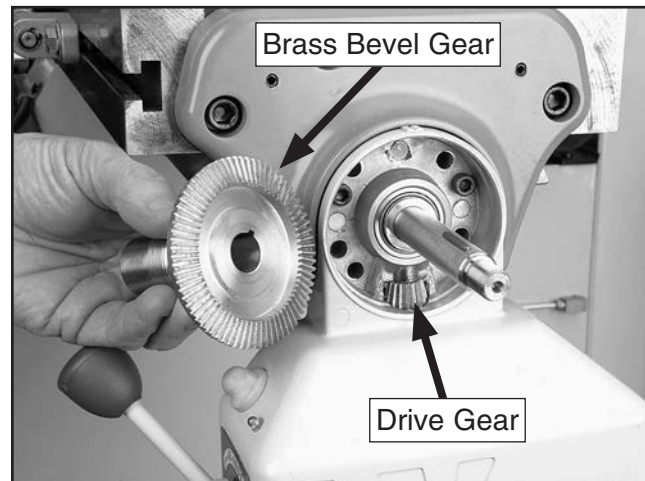

Figure 61. Power feed brass bevel gear and drive gear.
5. Brush a light coat of lubricant on the teeth of the bevel gear and the smaller drive gear (see **Figure 61**).